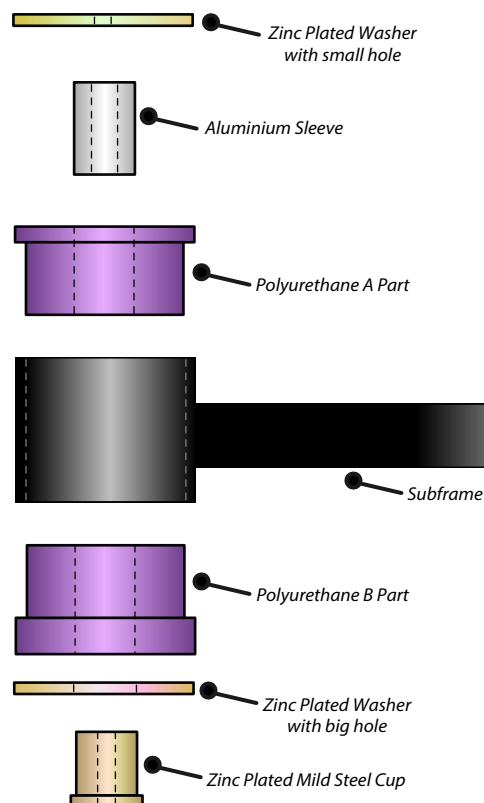

Figure 1
3. Push the polyurethane A part, with the thinner lip, into the bore of the subframe from the top, as shown in figure 1.
4. Push the polyurethane B part, with the thicker lip, into the bore of the subframe from the bottom, as shown in figure 1.